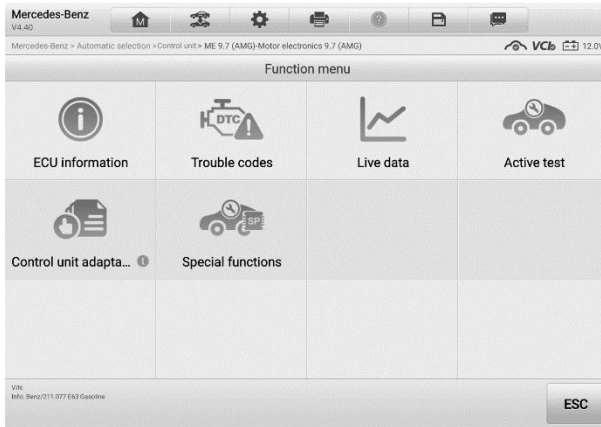

Figure 4-7 Function Menu Screen
- Column 4 — performs further diagnosis and other test activities. A Function Menu screen (*Figure 4-7*) shall display when you tap the  button.